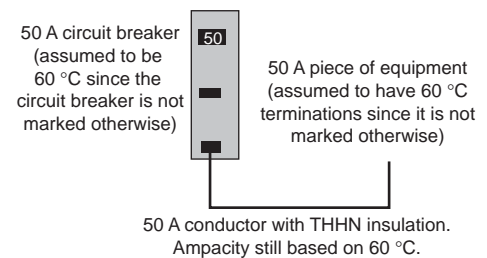

Figure 4: Conductors with Higher Temperature Ratings
- Conductors with higher temperature ratings, provided the ampacity is determined based on the 60 °C ampacity of the conductor (see Figure 4).